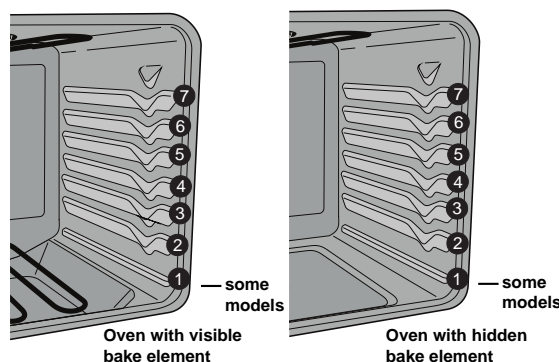

Figure 12: Rack positions for raised bake and hidden bake ovens
- For best results when baking cakes using two oven racks, place racks in positions 3 and 5 (See Figure 12).